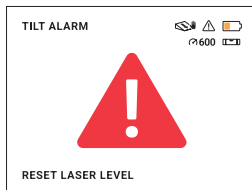

Fig.8
- If the laser level is disturbed while the alarm is active the laser level will stop rotating and the LCD screen will display the words 'reset laser level' (Fig.8). Press the **tilt alarm button** on the laser to reset the alarm and reposition the laser if necessary. The tilt alarm will need to be enabled again if still required.